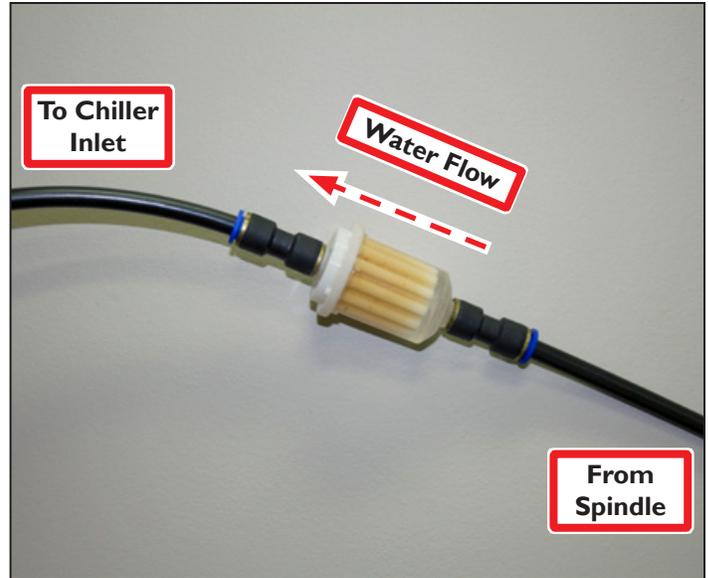

Figure 23
- Using a diagonal cutters, cut chiller inlet line to install Water Chiller Replacement Filter (PN 35495) or similar. Arrow in **Figure 23** indicates direction of water flow from spindle to inlet connection.